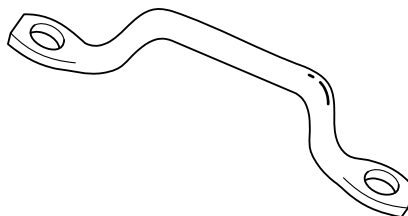

Figure 12 Footmans Loop
31. Remove Footmans Loop in Missile Stowage (Figure 12):